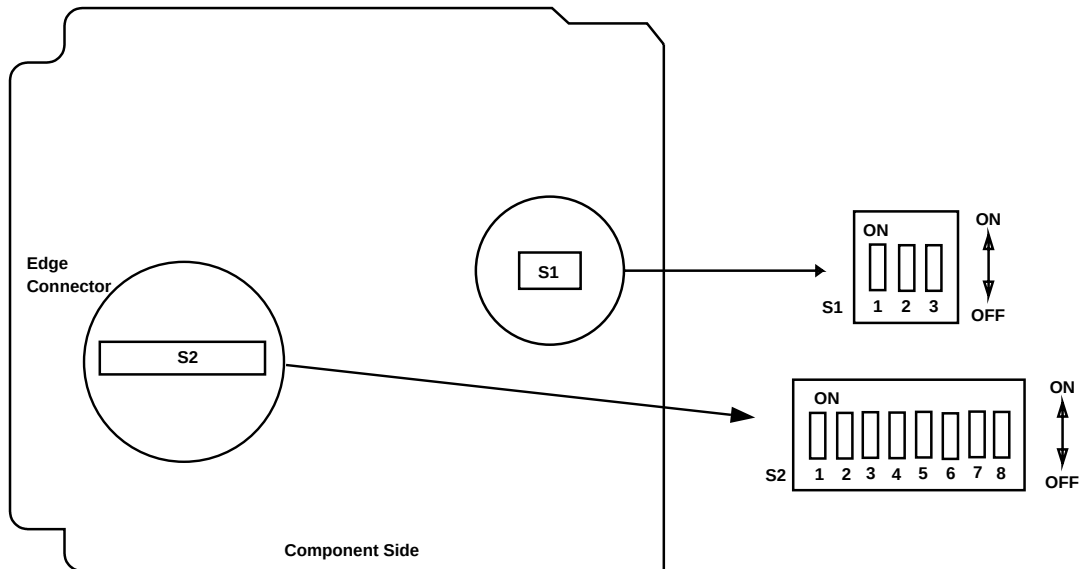

Figure 1. SYSCTL Option Settings
Determine the desired **SYSCTL** option switch settings from office records and see Figure 1.
4. If **SYSCTL** is being installed in shelf for the first time (initial shelf turnup, only **OHCTL** installed at this time) and switches have not been set, set TBOS termination switch **S2-1** per Table B. See Figure 1.
5. Set all remaining **S2** switch sections, **S2-2**, **S2-3**, **S2-4**, **S2-5**, **S2-6**, **S2-7**, and **S2-8** to **OFF**. See Figure 1.